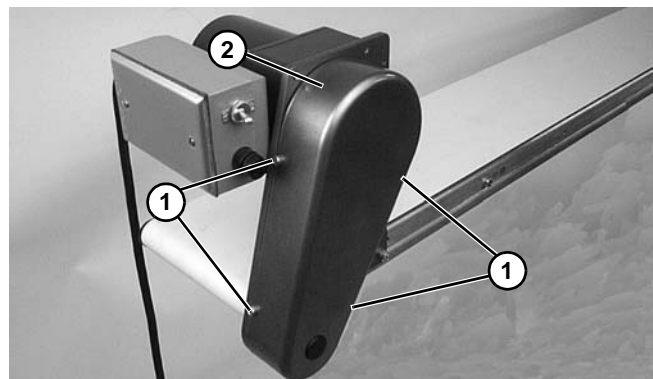

Figure 27
1. Remove four (4) screws (**Figure 27, item 1**) and remove cover (**Figure 27, item 2**).